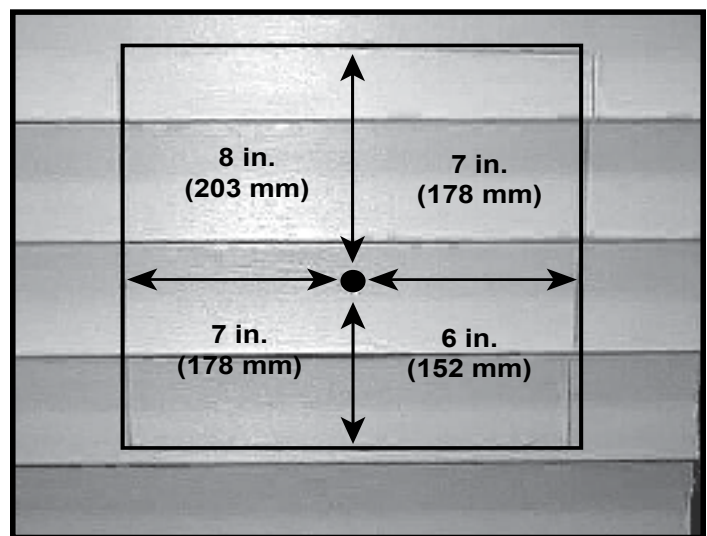

Figure 5.7
9. Termination cap HHW2 (Part #841-0670) is highly recommended on a building with vinyl siding, as the vinyl siding standoff is built in. The pilot hole will be 2 in. (51 mm) closer to the bottom of the square than the top. Using a framing square, draw a 14 in. x 14 in. (356 mm x 356 mm) square around the pilot hole. See Figure 5.7.